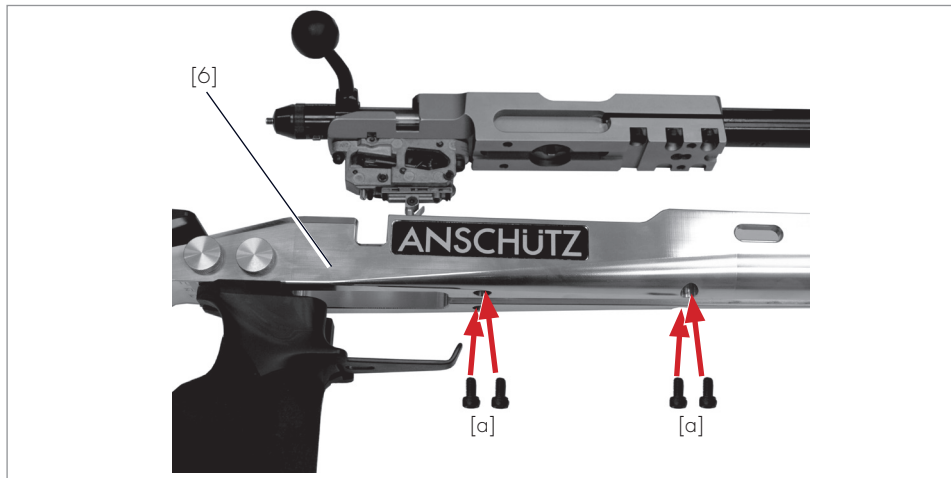

Fig.2 Attaching the barrelled action
- ▶ Lay the barrelled action [4] in the milled-out channel in the stock [6] (see Fig. 2).